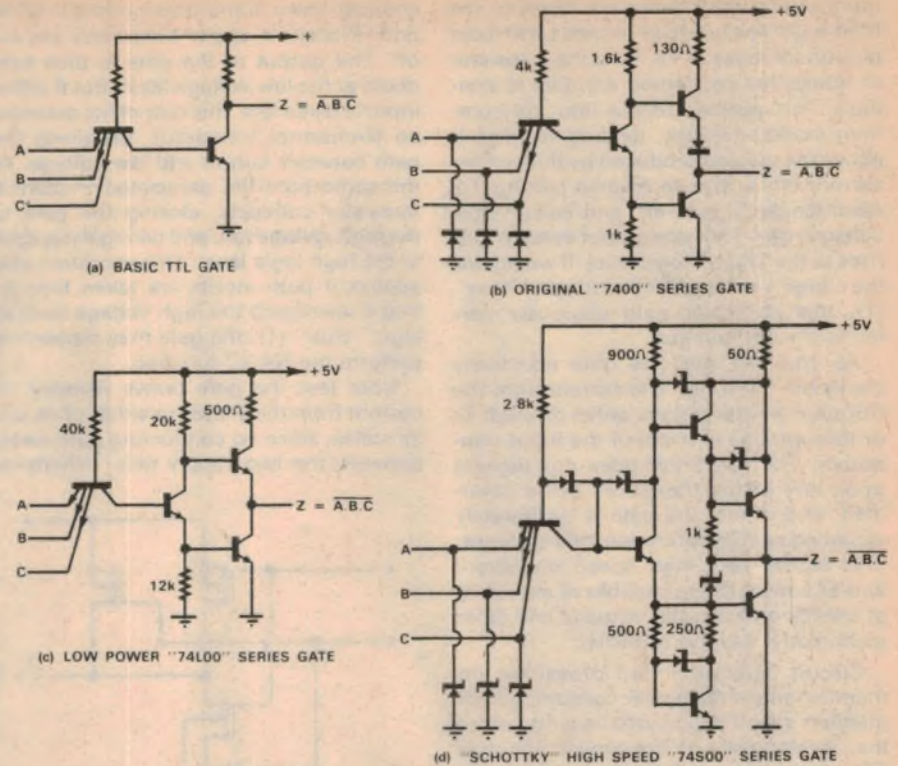

FIG. 2: VARIETIES OF TRANSISTOR TRANSISTOR LOGIC (TTL)
The basic TTL gate is shown in Fig. 2(a). It is virtually a further development of the second diode logic gate shown in Fig.
Practical TTL gates are a little more complicated than this, with additional transistors and other components to increase operating speed and give improved reliability. The first practical TTL devices to appear were the well-known "54/74" series, originated by Texas Instruments. The basic circuit for a 7400 series gate is shown in Fig. 2(b). If you compare it with the basic gate, you will see that the main difference is the addition of a pair of "totem-pole" output transistors to increase the operating speed and the output current capability. Clamp diodes are also added to the inputs, to prevent damage to the multi-emitter transistor from negative-going transients.
named 74S00. Like the low-power series these were still based on the original TTL circuit, but here the various resistor values were made smaller to increase speed—at the expense of higher current. With 74S00 devices the transistors were also shunted with metal-semiconductor or "Schottky barrier" diodes as shown in Fig. 2(d), to prevent them from saturating. This obviated charge storage effects, and gave a further marked increase in speed.
"low-power TTL", or LPTTL, with the series designation 74L00. These were based on the same circuit configuration as standard TTL, but with the resistor values increased to reduce the current levels as shown in Fig. 2(c). This also reduced speed, but in many low power applications this was not important.
A basic CMOS gate which performs the NOR function if the high voltage level is regarded as logic true (1) is shown in Fig. 2(b), for you to compare with the gate just described. As you might expect from logic, it is basically a mirror image of the first gate, with the series and parallel pairing reversed.